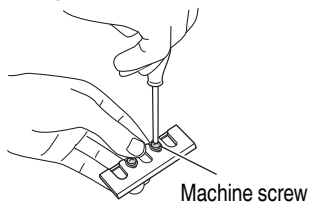

Fig. 32
- (1) Loosen the 2 screws holding on the blade and set plate (A). (Fig. 32)